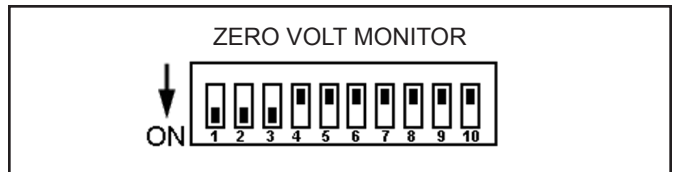

Figure 3. 50541 Universal Remote DIP switch settings
D. DIP Switches: Settings may be modified to allow compatibility for different monitors (see Figure 3).
Remove the Universal Remote from its packaging and inspect for any shipping damage. Modify the remote's DIP switch settings to match with its corresponding monitor (see Figures 3 and 4). The improved 4mm snaps give the operator the option of using the Jewel® Dual-Wire Coil Cord or Jewel® MagSnap Dual-Wire Coil Cord (with adapters). Decide on a convenient location to mount the remote; it is typically mounted under the workbench top to save workspace.
3. Route the other end of the cable to the Universal Remote and insert the plug into the modular jack located on the side of the remote. Note: If connected to the 732 jack, ensure that the remote's DIP switch settings match those of "3M 724 (OPERATOR 1)" in Figure 3. If connected to the 733 jack, ensure that the remote's DIP switch settings match those of "3M 724 (OPERATOR 2)" in Figure 3.